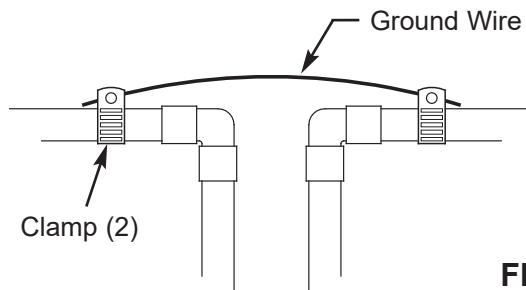

FIG. 11
a. Install a #4 copper wire across the removed section of main water pipe, securely clamping it at both ends (See Figure 11) - parts not included.